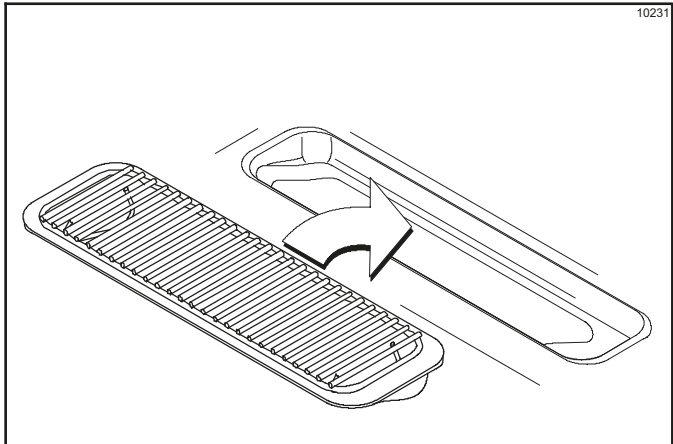

Figure 6-22
- 23. Install the front drip tray and splash shield under the door spout. (See Figure 6-22.)